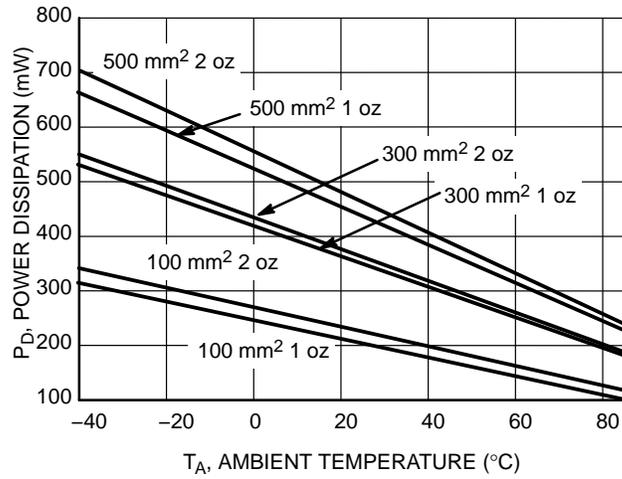
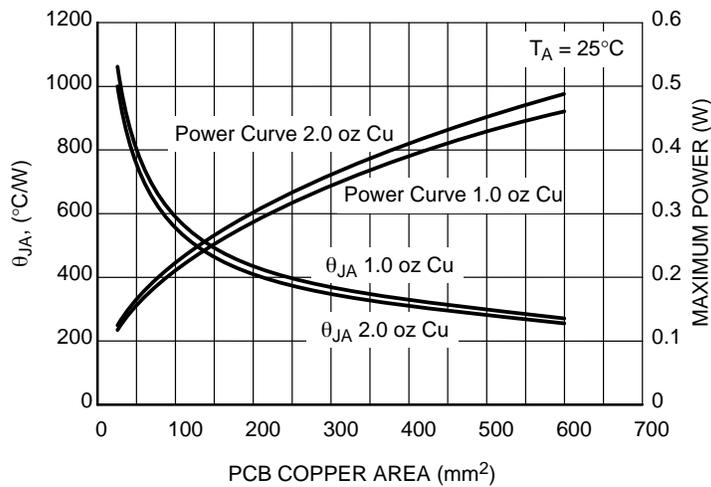

Figure 1. Power Dissipation vs. Ambient Temperature (SOD-123) @ $T_J = 150^\circ\text{C}$ for Variable Copper Heat Spreader
Figure 2. SOD-123 NSI14030T1G θ_{JA} and P_D vs. Cu Area
Figure 1 shows power dissipation over changes in ambient temperature for the SOD-123 package. Figure 2 shows θ_{JA} ($^{\circ}C/W$) and P_D (W) for various Cu areas and thicknesses. These tables and graphs illustrate the effect of Cu area, thickness and ambient temperature (T_A) over the range of $-40^{\circ}C$ to $85^{\circ}C$, which encompasses the area of interest for LED operation. LED data sheets show an extreme reduction in luminosity above $85^{\circ}C$ T_A .
Figures 2 and 4 can be used to quickly determine which package and heat sink is a good candidate for the application.
For an ambient temperature of 85°C, from the P_D curves of Figures 1 and 3 a SOD-123 with 500 mm² 1 oz Cu would suffice. A SOT-223 with 100 mm² 1 oz Cu would also work.